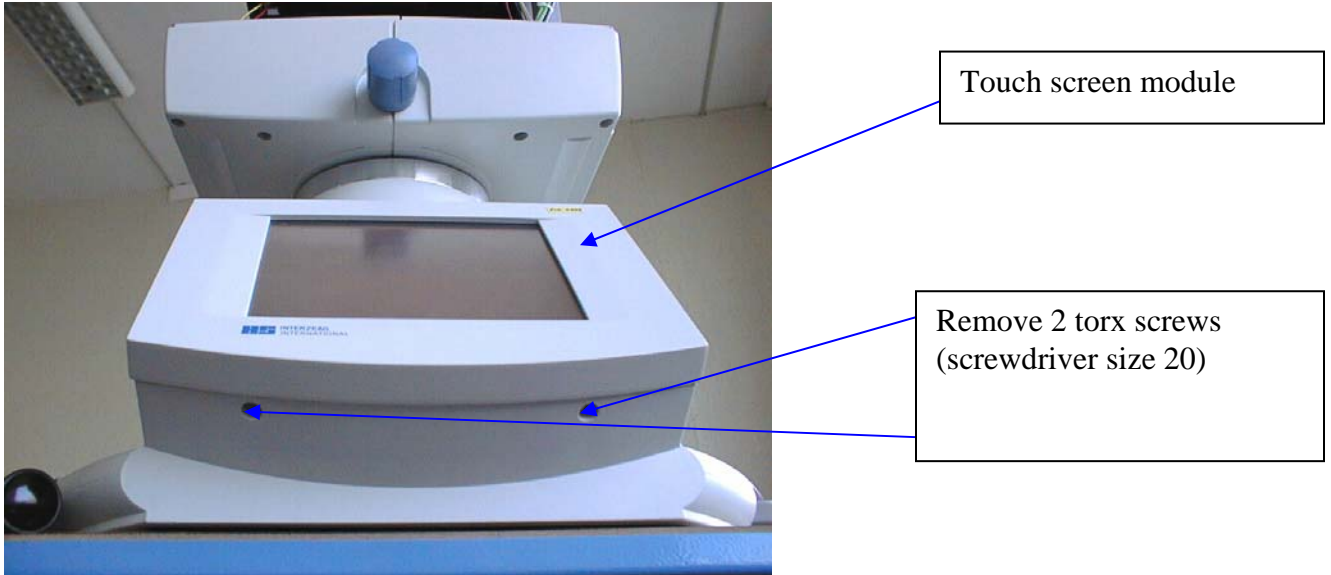

Figure 7-15
- Remove the two torx screws (size 20) on the bottom side of the 'Touch screen module'. See Figure 7-15.